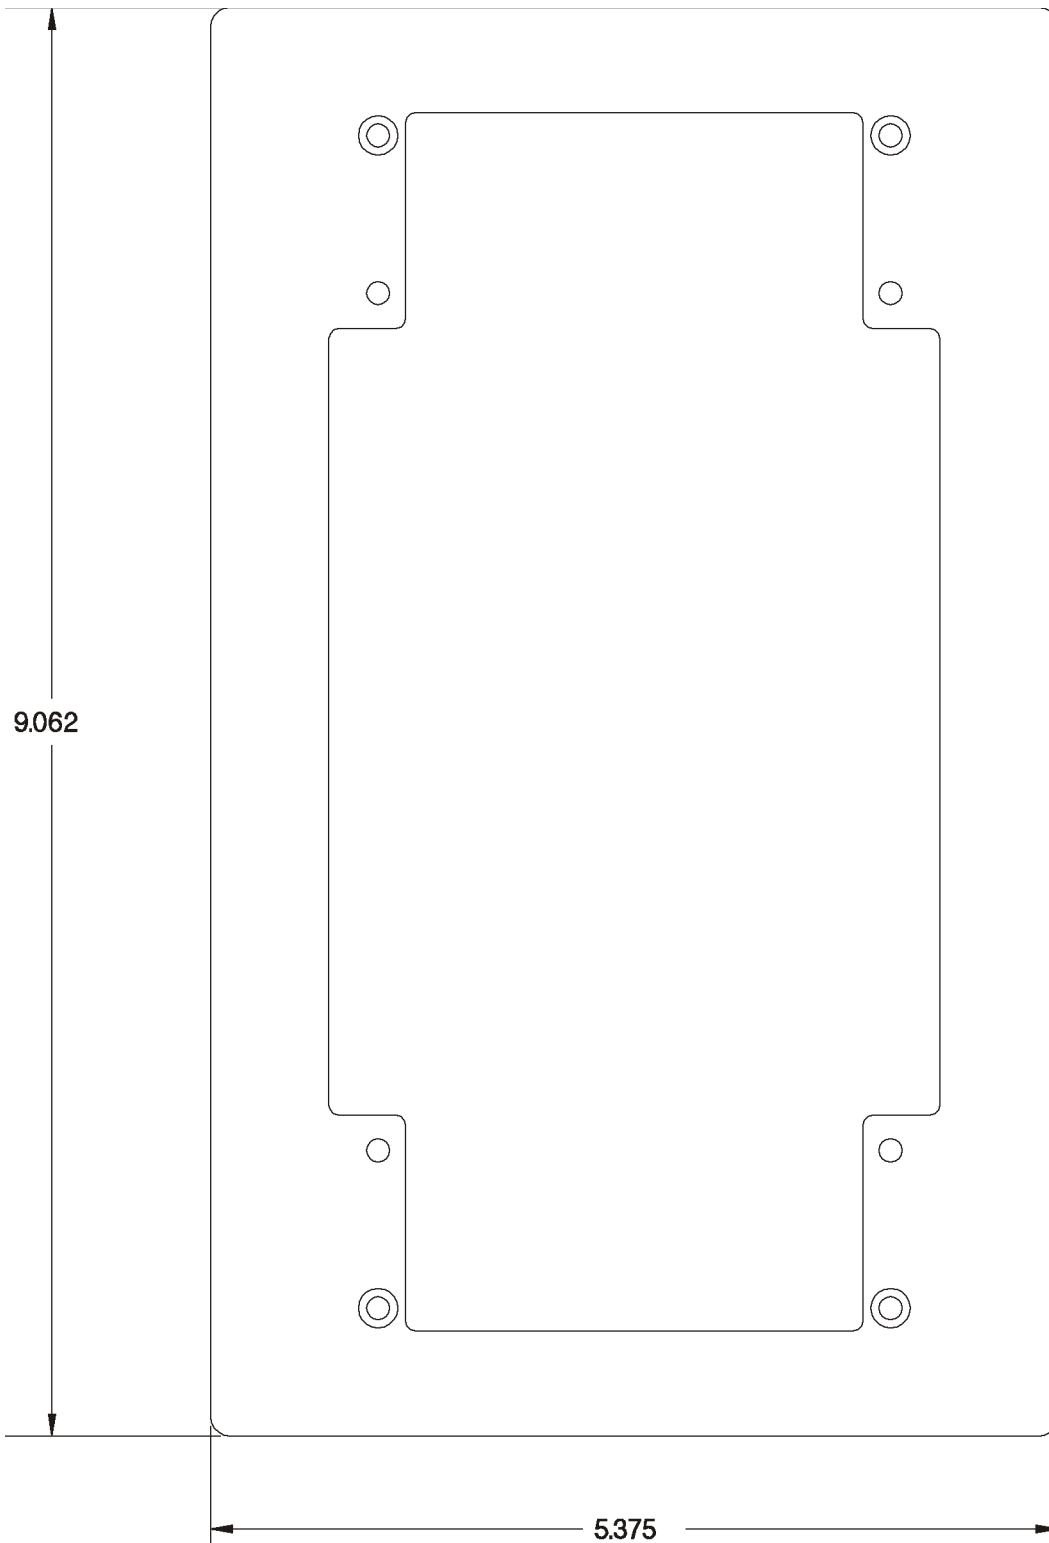

Figure 6 - 500FL Mounting Flange
- Model 500FL . . . . . See figure 6